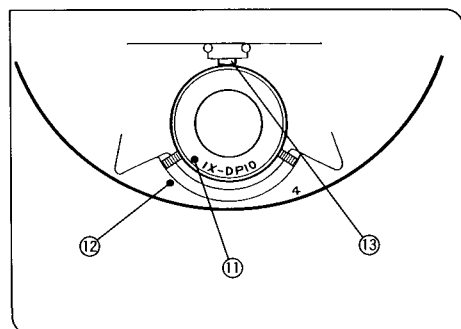

Fig. 26
2. Aligning the positioning dot (11) of the DIC prism insert with the positioning dot (12) of the turret aperture, drop the DIC prism insert into the turret aperture as far as it will go in a manner so that the positioning pin of the DIC prism insert fits into the pin hole. Slightly depress the spring (13) on the inward side of the turret aperture with the side of the DIC prism insert mount when inserting. (Fig. 26)